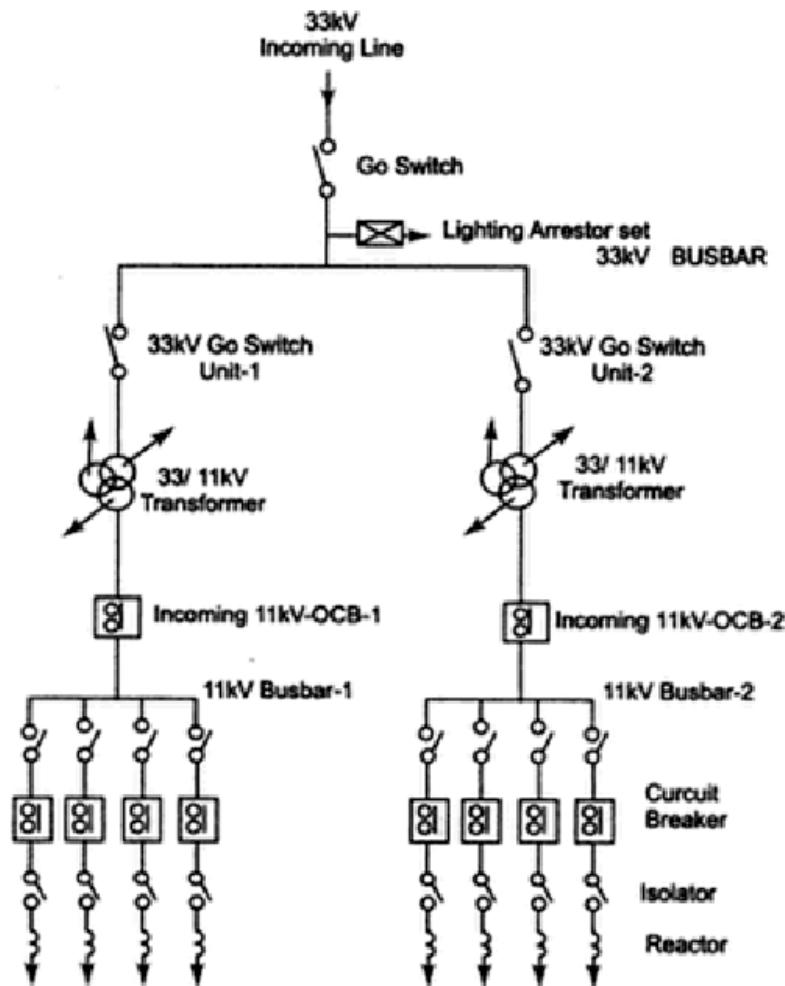

Figure 12.4: Line diagram of 33kV/11kV substation
12.4 Draw the electrical circuit diagram of Single Line Diagram of 33 kV/11kVsubstation as shown in Figure 12.4